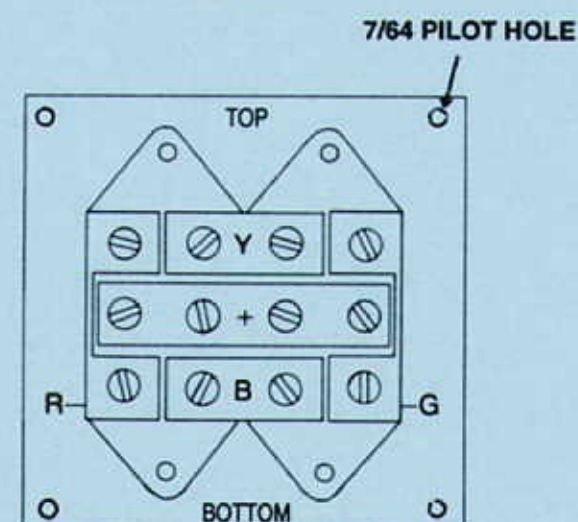

FIGURE 3
4. Pull the wire harness up through the hole and attach it to the back of the switch with the ring connectors enclosed. There are two screws per letter; the wire can be attached to either screw fastening on the brass strip marked with the first letter of that color of the wire. *(Figure 3) All 12 screws must be in place and snug for proper switch function.